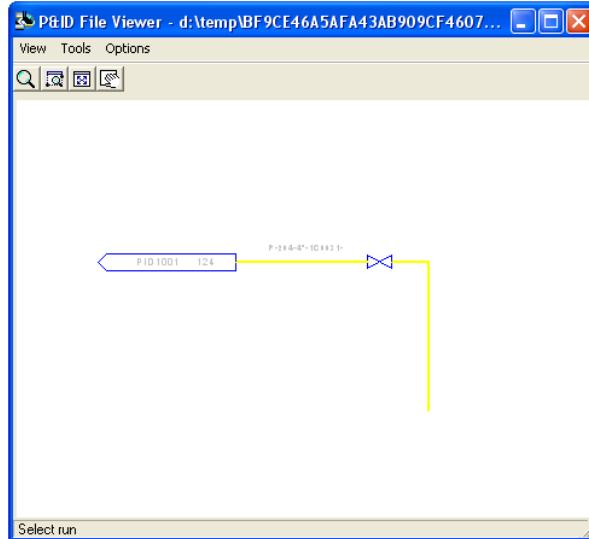

Figure 50: P-204 Pipeline in the P&ID PID1002 Drawing
34. The **P&ID File Viewer** window appears. In the P&ID File Viewer, select the pipeline **P-204**, as shown in Figure 50.